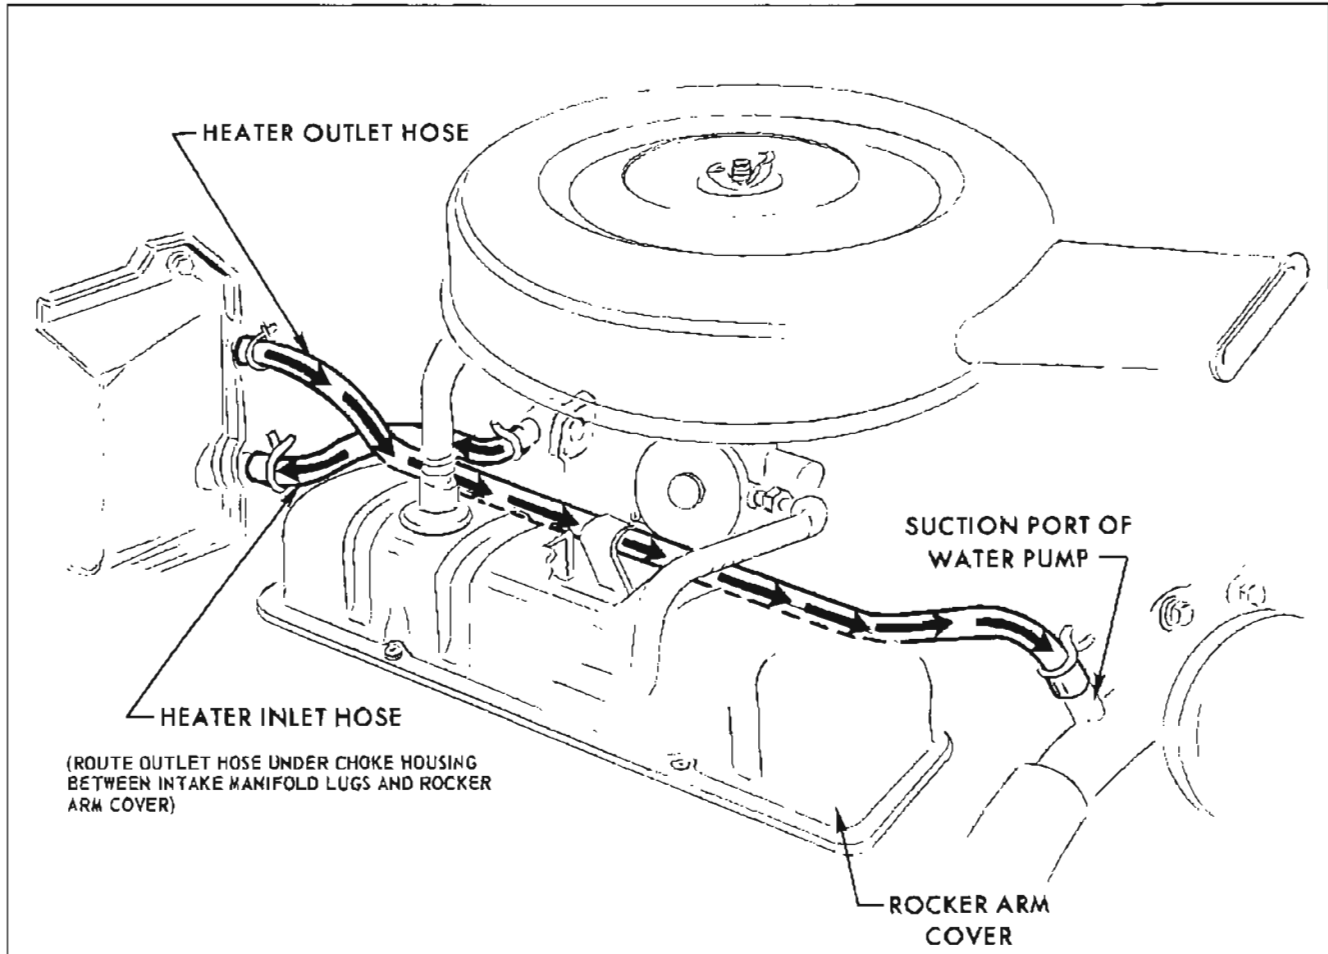
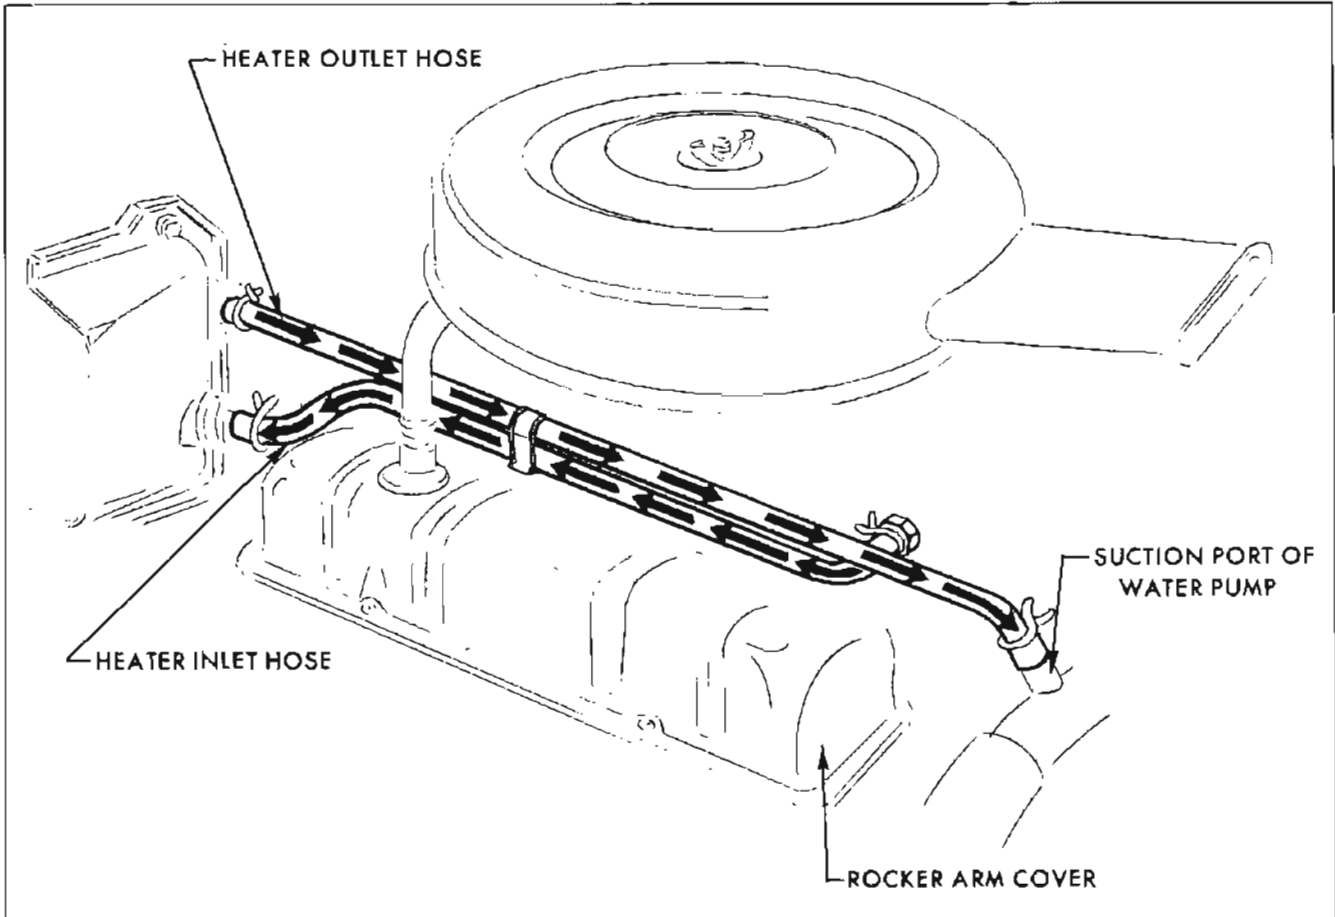

Figure 11-13—Heater Hose Routing, V-8 Engine
Figure 11-14—Heater Hose Routing, V-6 Engine
The heater core, located in the heater assembly, has water flowing through it at all times. Water flow through the heater core on the V-8 engine is from the rear of the intake manifold to the inlet port (lower) of the heater core, through the heater core, and from the outlet port (upper) of the heater core to the suction port of the water pump (see Figure 11-13). The routing of the water for the heater system on V-6 engines is similar to the V-8 routing, except that the flow begins at the right front of the intake manifold (see Figure 11-14). The heater assembly has fixed vane outlets to distribute air evenly throughout the passenger compartment.
The FAN lever operates a four-position switch. A two resistor blower resistor assembly is connected in series between the blower motor and the switch, and serves to reduce the speed of the motor. When the FAN lever is positioned fully to the left, the blower motor is off. Movement of the lever to the right provides low, medium and high blower speeds. A 180°F. thermostat is provided as standard equipment on all series cars. The thermostat is located under cylinder water outlet (thermostat housing). See Figures 11-13 and 11-14.
5. Disconnect heater inlet and outlet hoses from heater core inlet and outlet ports (see Figures 11-13 and 11-14).